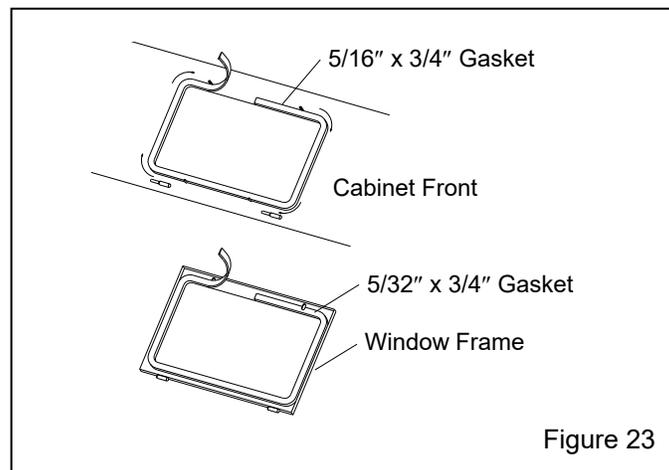

Figure 23
7.5 Window-Gasket Replacement – Figure 23
7.5.4 Peel a short section of adhesive backing from the 5/16"-thick strip gasket and adhere the gasket to the center of the top edge of the window opening, as shown in Figure 23. Peel additional backing as needed, and work the strip around the radius of each corner, pressing it firmly to bond. Trim the gasket to fit and compress the ends to seal.